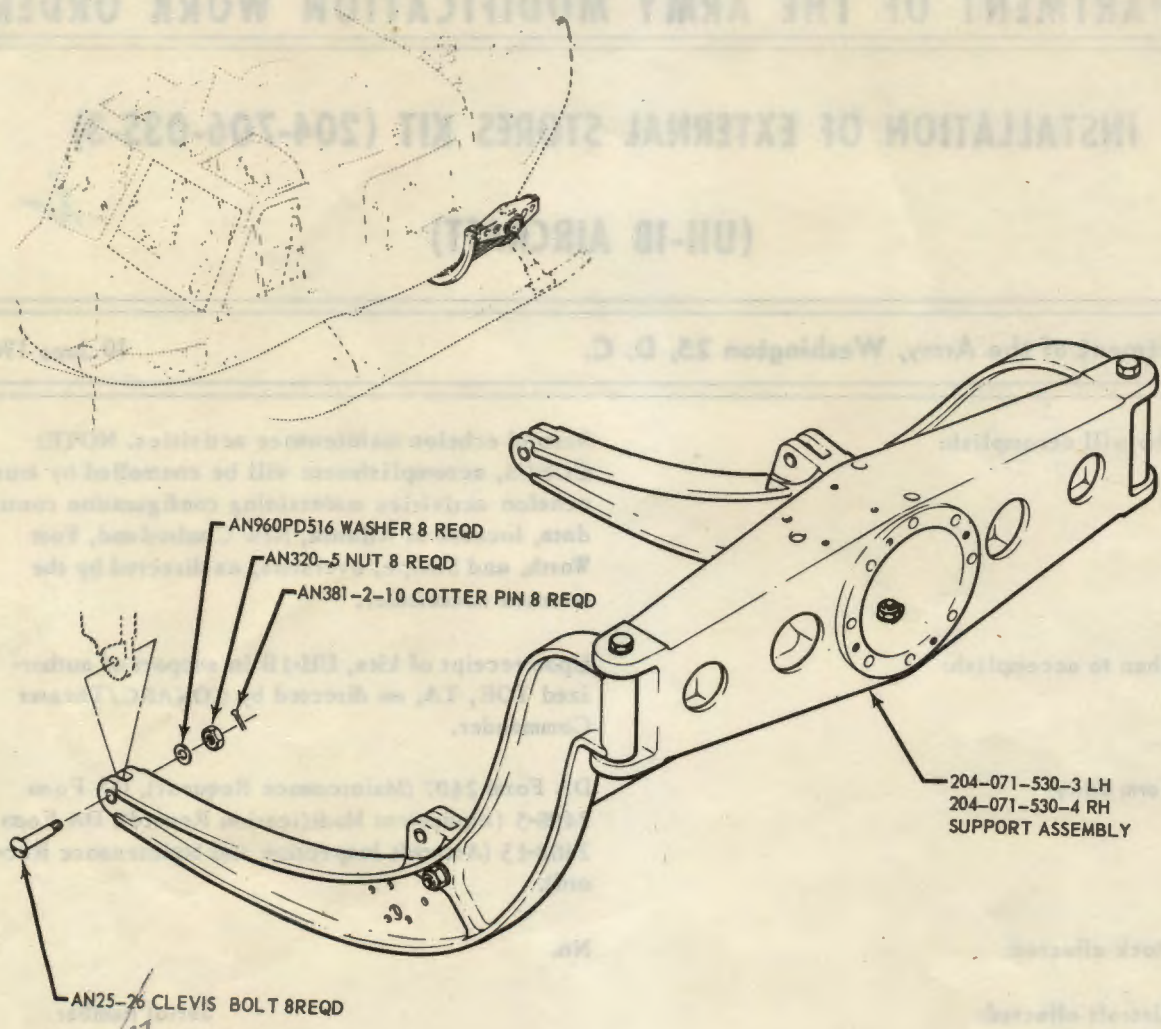

Figure 1. External stores rack.
- (1) Position support assembly (204-071-530-3) with relation to fuselage as shown on figure 1.
- (2) Align attachment holes in forward and aft beams of support assembly (204-071-530-3) with existing holes in hard points.
- (3) Secure support assembly (204-071-530-3) to hard points with 4 clevis bolts (AN25-26); 4 washers (AN960-PD516); and 4 nuts (AN320-5).